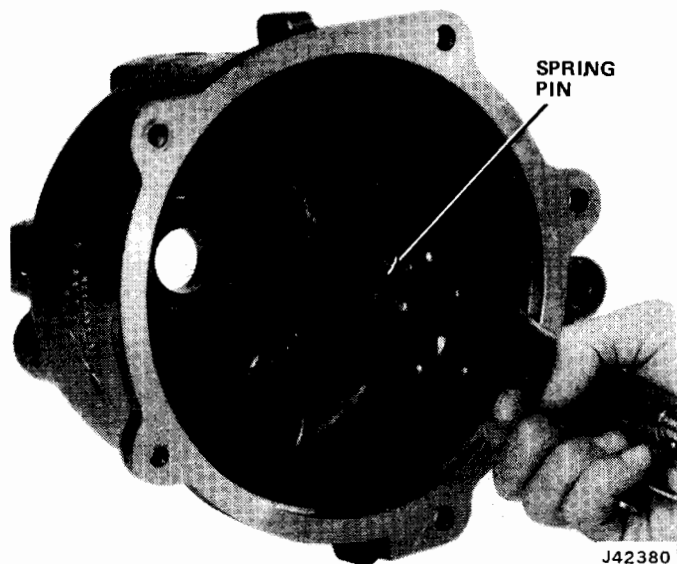
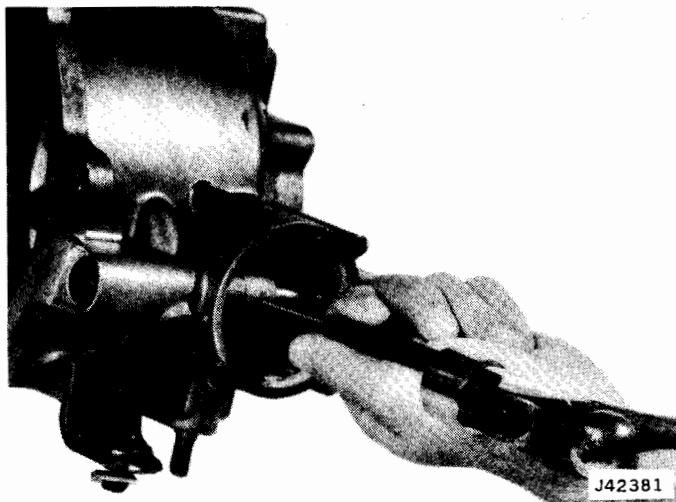

Fig. 8-31 Removing Shift Fork Locating Spring Pin
Fig. 8-32 Removing Spring Pin
- (1) Remove shift fork locating spring pin by pulling and rotating with pliers (fig. 8-31).
- (2) Remove large expansion plug.
- (3) Remove shift rail taper plugs.
- (4) Remove control lever from shift lever assembly.
- (5) Use 3/16-pin punch and drive spring pin from shift fork and shift rail (fig. 8-32).
- (6) Slide shift rail forward out of shift fork. Remove shift fork.
- (7) Remove shift rail poppet ball.
- (8) Drive poppet taper plug into shift rail bore and remove plug and poppet spring.
- (9) Remove shift lever retaining pin and shift lever assembly.
- (10) Remove reduction holding plate retaining snap ring and reduction holding plate.
NOTE: The locating pins should index in case, and shift fork locating spring pin holes in holding plate and housing must align (fig. 8-31).